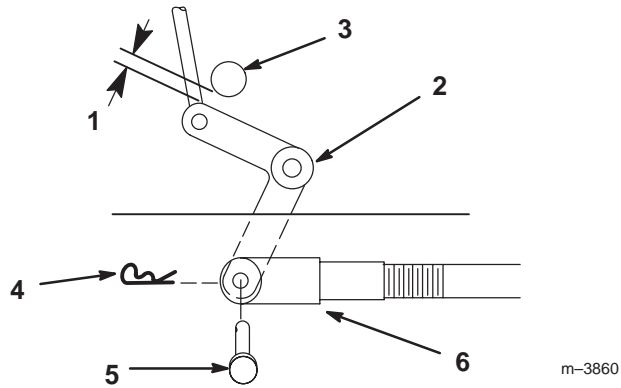
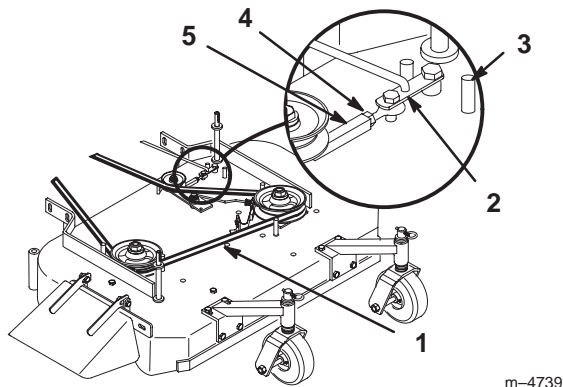

Figure 48
Figure 49
3. Remove mower belt (Fig. 49).
7. Install the mower belt (Fig. 49).
- Engage PTO lever and check the clearance between the bellcrank and the transmission output shaft (Fig. 48). Space should be $1/16$ – $1/8$ in. (2–3 mm).
- Remove hairpin cotter and clevis pin from bellcrank. Rotate clevis clockwise on rod to increase or counterclockwise to decrease clearance (Fig. 48).
- Disengage the PTO. If the assist arm does not contact the front stop on the mower deck (Fig. 49), readjust the clevis to bring the bellcrank closer to the transmission output shaft (Fig. 48).
- Loosen locknut on turnbuckle (Fig. 49).
- Rotate turnbuckle toward rear of mower to increase tension on belt. Rotate turnbuckle toward front of mower to decrease tension on belt (Fig. 49).